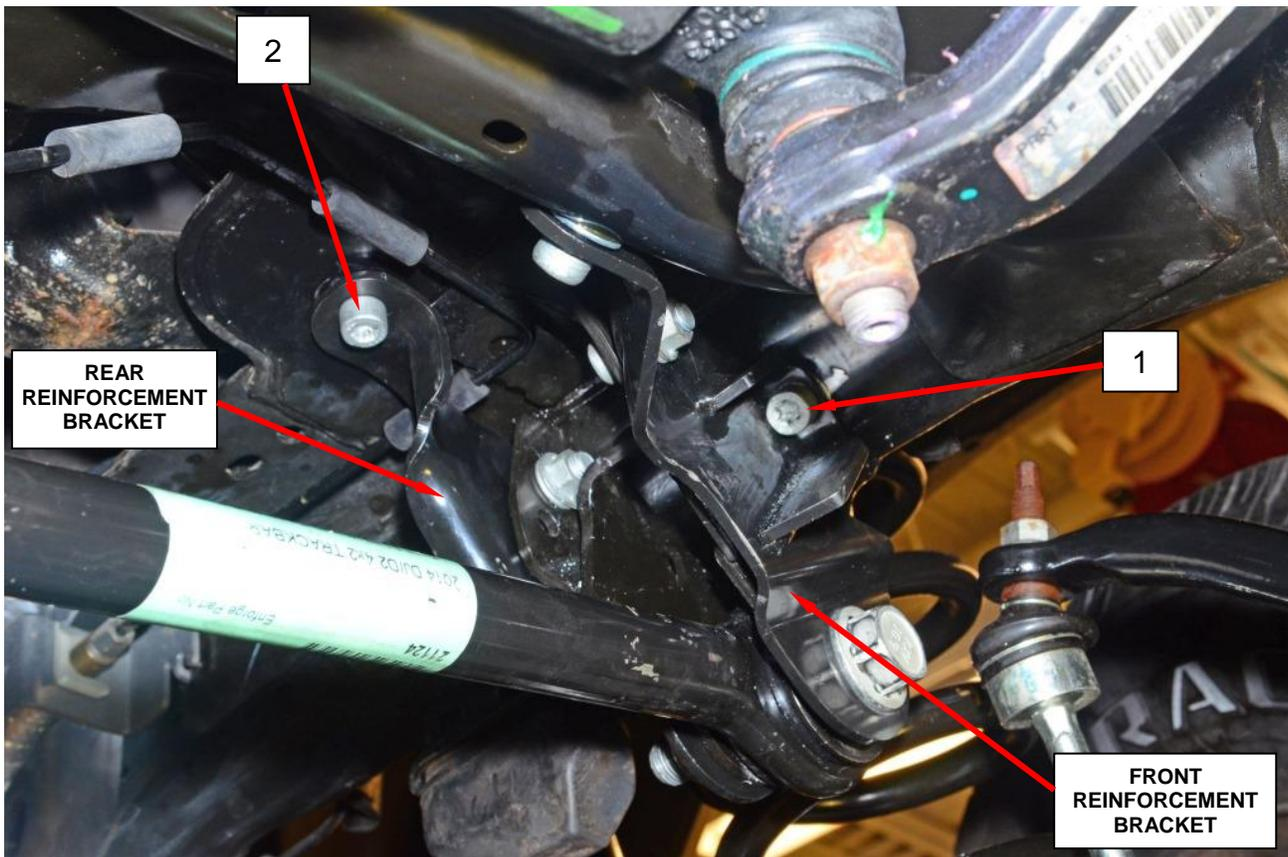

Figure 61 – Tighten the M10 Bolts in Proper Sequence
40. Tighten the M10 Torx head cap screws to 27 ft. lbs. (37 N·m) in the order shown in Figure 61 and Figure 62.